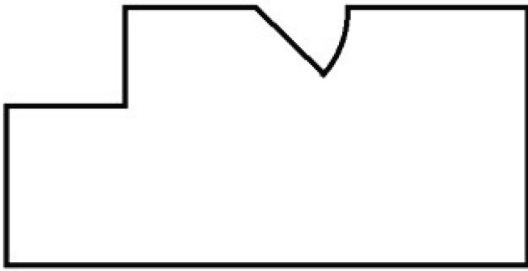

Figure 15
- 45 How many 4.5 m lengths of skirting board will be required for the room shown in Figure 15, do not allow for waste.